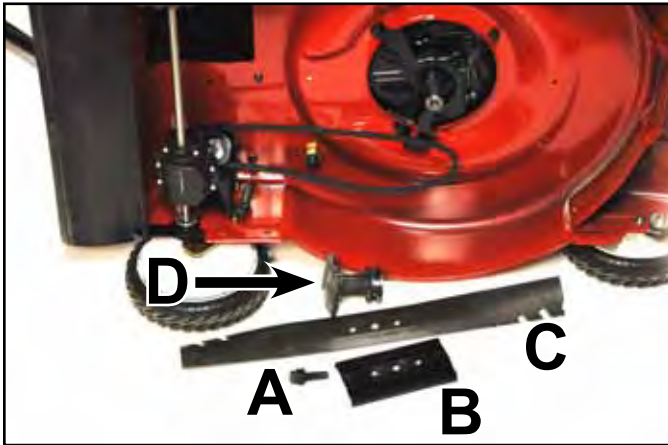

Fig. 140
- Remove blade bolt(s) (A), blade support (B), blade (C), and blade driver (D) (Fig. 140).